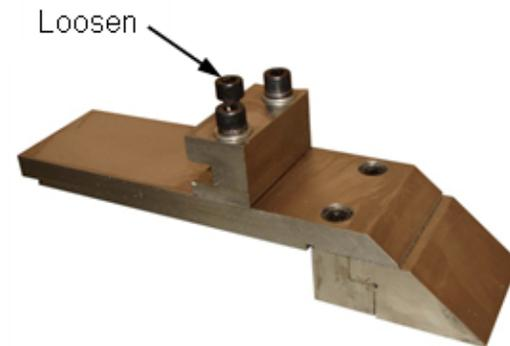

Figure:7-8
1. Remove one of the fingers by loosening the capscrew as indicated in (fig. 7-8) and removing it from the front guide. Use an 8mm hex wrench.